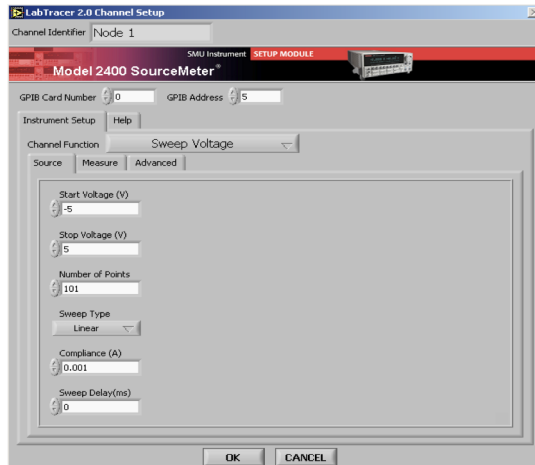

Fig. 7: LabTracer Setup window for SMU 1 with Source tab selected.
- (g) **Examine SMU Setup:** Click on the SMU icon, and select the model 2400. Click on “Setup 2400.” A series of tabs can be selected to view or alter measurement parameters. The appearance of the window with the Source tab selected is shown in Figure 7. Select the **Source** tab.